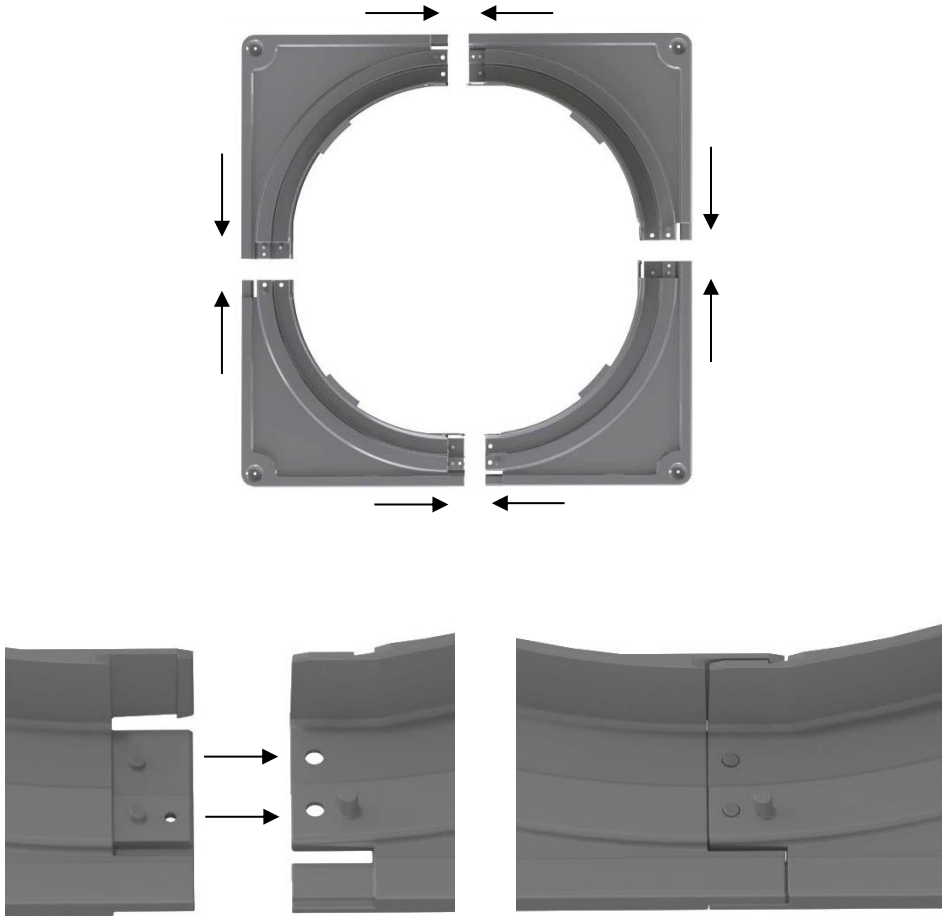

Figure 4: Assembly of base flange
- 1.) Assemble base flange by interlocking the four sections as shown in Fig. 4 below: